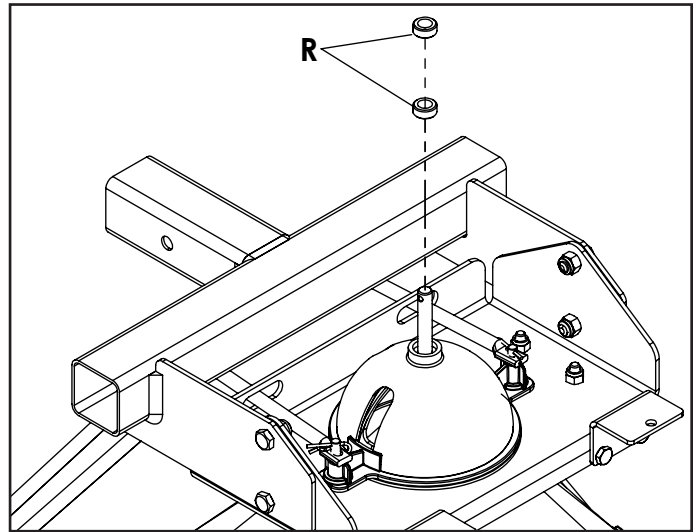

FIGURE 15
STEP 15: (SEE FIGURE 15)
- Install a spacer (R) onto the impeller shaft.
- Install another spacer (R) onto the impeller shaft.